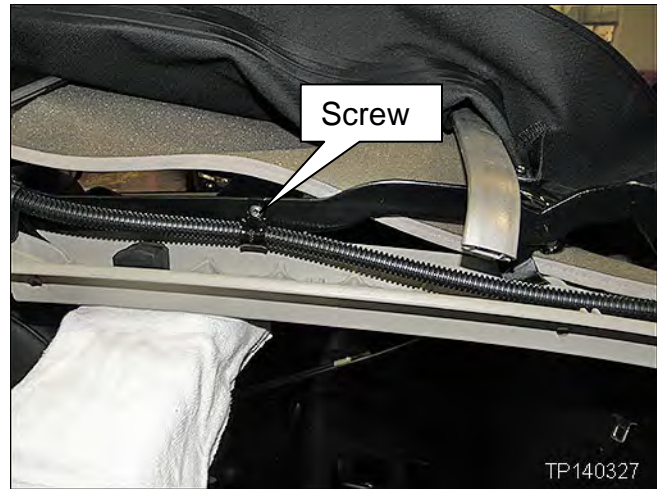

Figure A22
11. Remove the screw shown in Figure A22.